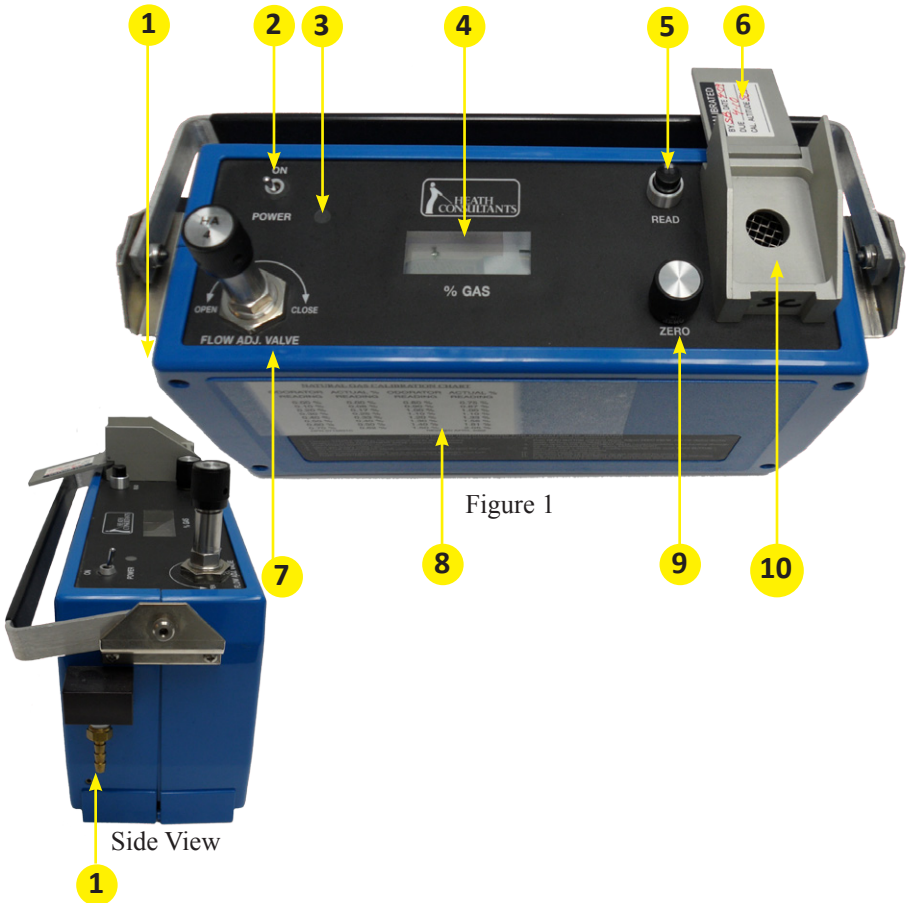

Figure 1
****NOTE**** See Figure 1 on page 4 for reference to the following steps.
2. Connect the sample hose to the gas supply outlet valve and to the ODORATOR inlet port (1).
7. Push the read switch (5) and while holding it down adjust the zero knob (7) until the LCD reads “.00”. Release the read switch.